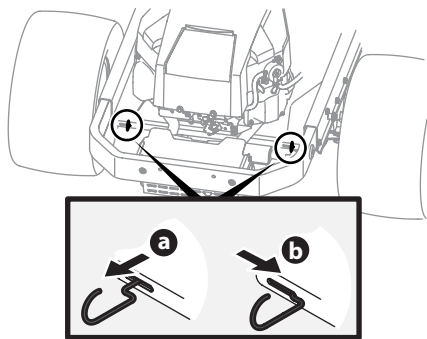

Figure 2-1
4. Engage the transmission bypass rods on each side of the tractor; then carefully roll the tractor off the shipping pallet. The transmission bypass rods (one for each the RH and LH transmission) are located on the rear of the tractor, just inside each rear wheel. Engage the bypass rods by pulling each one out and to the right then letting it return to lock it into place. See Figure 2-1.
5. Disengage the bypass rods after rolling the tractor off the pallet. See Figure 2-1.